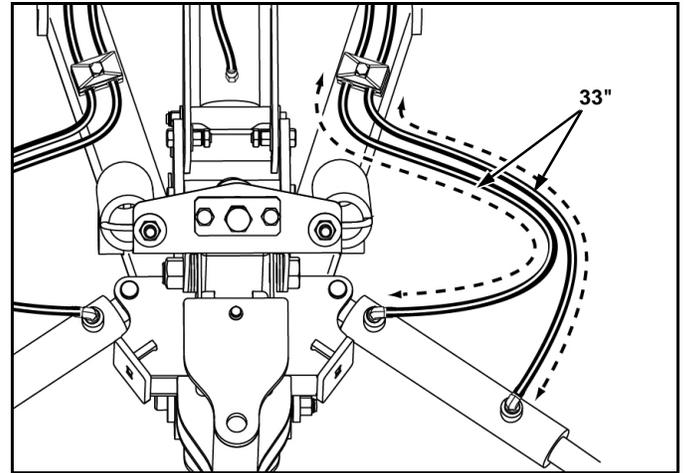

Figure 1-12
13. Adjust each hose length from clamps to hose end fittings to 33 in. and tighten both clamp screws. (See Figure 1-12)